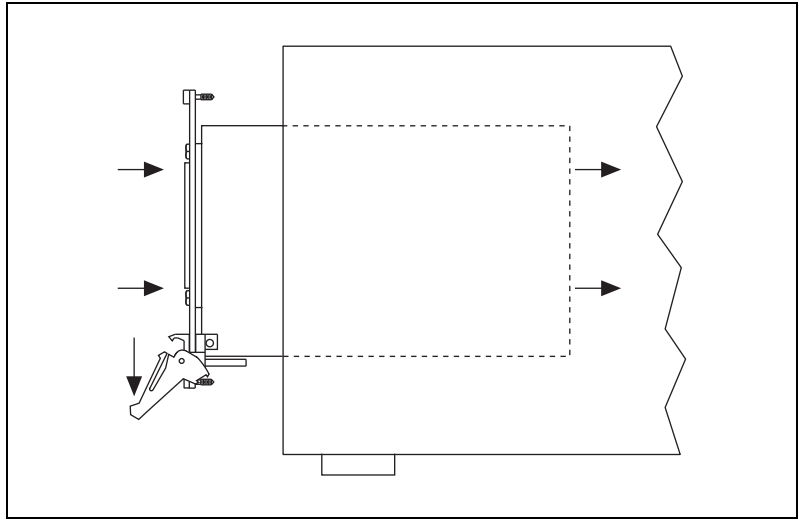
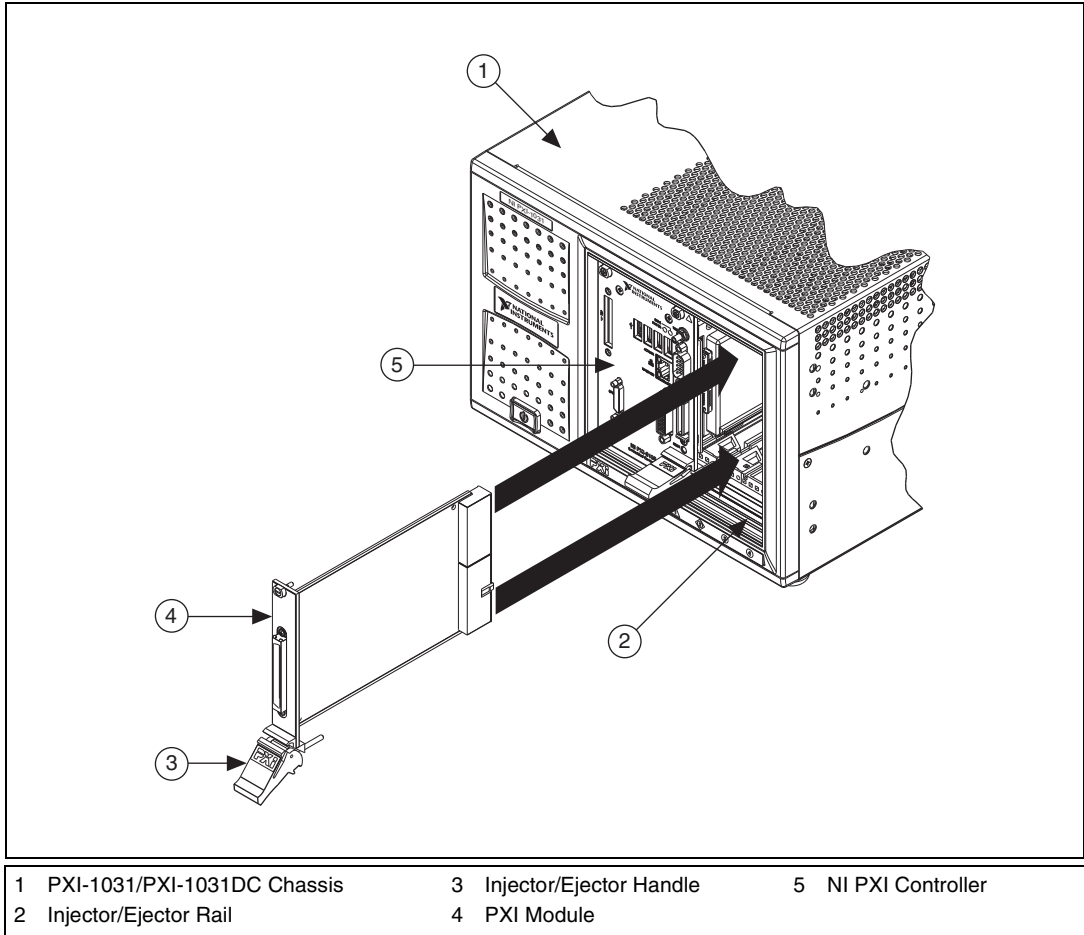

Figure 2-3. Injector/Ejector Handle Position during Controller or Peripheral Module Insertion
Figure 2-5. Installing PXI or CompactPCI Modules
2. Install the controller into the system controller slot (slot 1, indicated by the red card guides) by first placing the controller edges into the front controller guides (top and bottom). Slide the controller to the rear of the chassis, making sure that the injector/ejector handle is pushed down as shown in Figure 2-3.
2. Install a module into a chassis slot by first placing the module card edges into the front module guides (top and bottom), as shown in Figure 2-5. Slide the module to the rear of the chassis, making sure that the injector/ejector handle is pushed down as shown in Figure 2-3.